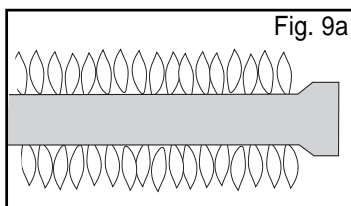

Fig. 9a
**WARNING:** IF THE SELECTED BURNER DOES NOT LIGHT, immediately turn the burner control knob to the OFF position, to prevent gas buildup. Wait five (5) minutes for the gas to clear and then repeat the preceding starting procedure. If the burner will not light when using the Igniter, follow the match lighting instructions (see Page 8).
6. Confirm that the burner is properly lit and that the flame pattern is as desired, (see Figs. 9a, 9b & 9c, for the proper flame patterns). If the flame pattern is other than normal, consult the Troubleshooting Guide on Page 23 for corrective action.
- **WARNING:** IF THE ROTISSERIE BURNER DOES NOT LIGHT, immediately turn the burner control knob to the OFF position, to prevent gas buildup. Wait five (5) minutes for the gas to clear and then repeat the preceding starting procedure. If the burner will not light when using the Igniter, follow the match lighting instructions below.
6. Confirm that the burner is properly lit and that the flame pattern is as desired, (see Figs. 9a, 9b & 9c, for the proper flame patterns). If the flame pattern is other than normal, consult the Troubleshooting Guide on Page 22 for corrective action.